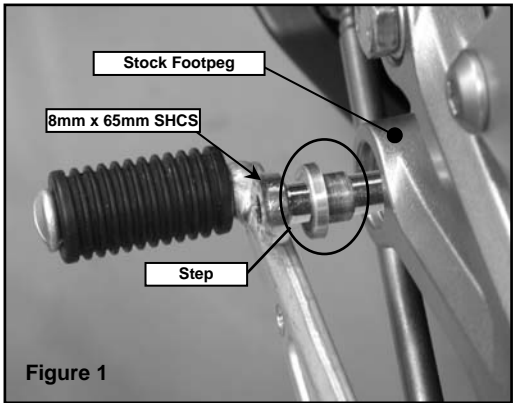
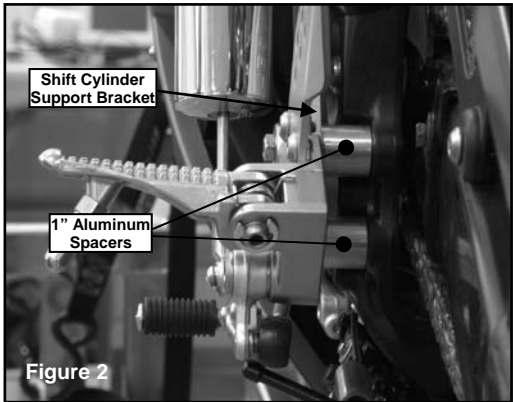
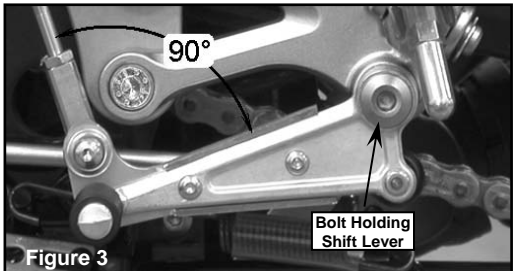

Figure 1
Figure 2
Figure 3
Use two 8mm x 65mm socket head cap screws with step bushings supplied (see figure 1) on the two bolts and put them through the stock foot peg bracket, through the shift cylinder support bracket, and through the 1" long aluminum spacers and tighten this assembly back onto the motorcycle using the original mounting location of the foot peg bracket, see figure 2. Next remove the bolt which holds the shift lever on, see figure 3. Remove shift lever from bracket and loosen jam nut on shift linkage rod. Unscrew shift lever from shifter linkage rod.
Using the Torque-thread locker supplied, bolt Pingel shift lever bracket onto stock shift lever. Use the 10-24 x 1/2" button head socket cap screws for fastening the bracket to the foot peg, as shown in figure 3. Reattach shift linkage rod to shift lever, slide shift lever back onto foot peg bracket and tighten bolt. Do not tighten the jam nuts on the shift linkage rod because adjustment is necessary later.
Install electric shift cylinder onto shift cylinder support bracket using Pingel clamp and (2) 1/4-20 x 3/4" socket head cap screws. Just snug these bolts for now, as adjustment will be needed. The rod end on the shift cylinder should be able to go past the point of mounting in each direction sidewise. The point of mounting is that flat surface upon which the rod end bolts to the Pingel shift lever bracket allowing for the thin flat 1/4" washer also. It is imperative that there is no side pressure or tension on the electric shift cylinder shaft when it meets its flat surface upon the Pingel shift arm lever washer where it is bolted as this would take away valuable power from the electric shift cylinder resulting in binding and missed shifts. If the rod end does not line up correctly you can either add another thin 1/4" flat washer to the existing washer to move the rod end away from the shift arm lever, or remove the thin flat 1/4" washer to move the rod end closer to the shift arm lever. Now thread the 1/4-28 x 1" button head socket cap screw thru the rod end of the electric shift cylinder, through the 1/4" flat washer and into the Pingel shift lever bracket on the shift lever tightening the 1/4-28 locknut on the back, as shown in figure 3. Adjust the stock shift linkage rod so that the shift lever is 90° from the electric shift cylinder shaft, see figure 3. Tighten the jam nuts on the shift linkage rod to factory specifications.